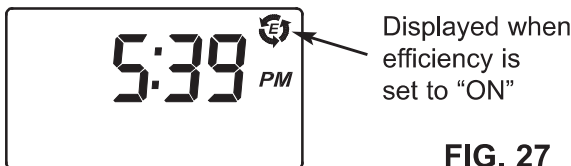

FIG. 27
4. Press the SELECT button three times to return to the normal run display (See Figure 27).